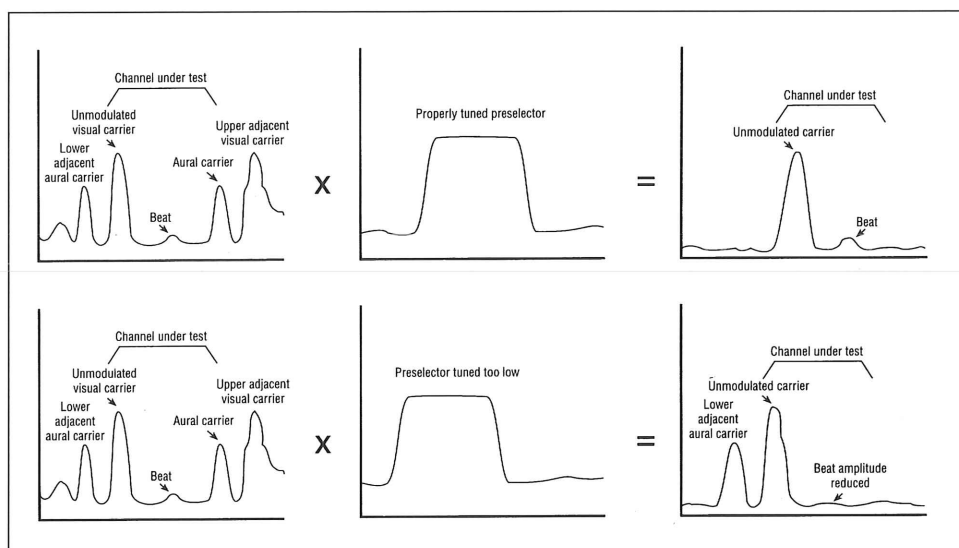

Figure 6. Effects of mistuning a preselector filter. The amplitude of the signal to be measured can be drastically affected if the filter is mistuned.
3. If the bandwidth or tuning of a preselector is not correct, it may affect the relative amplitudes of signal components you wish to measure. See Figure 6.